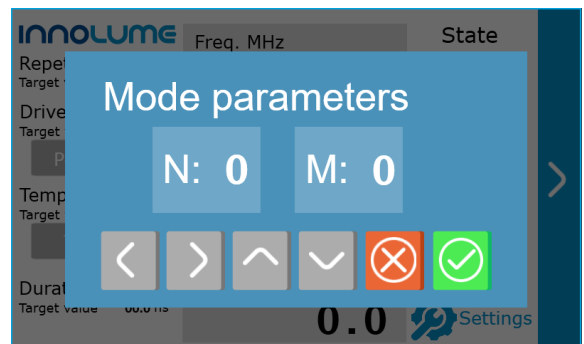

Figure 19 – Burst mode parameters
6. To set the burst mode parameters tap on  button, use the left and right arrows to select the parameter to change, use the up and down arrows to change the parameters value (fig. 19). Press  button to save the changes and exit menu. Press  button to exit menu without changes.